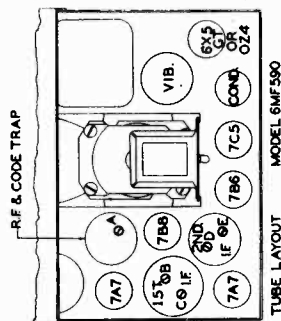

FIG. 3
4. The adjustment screws B, C, D and E (see Fig. 3) are then adjusted in order for maximum response.